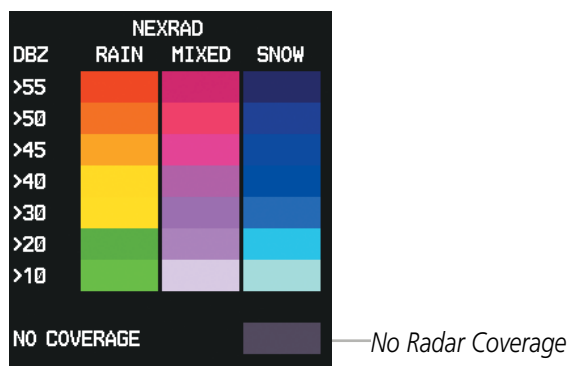

Figure 6-11 NEXRAD Data with Legend
- 1) Select the **MAP** Softkey. This step is not necessary on the Weather Data Link (XM) Page.
Composite data from all the NEXRAD radar sites in the United States is shown. This data is composed of the maximum reflectivity from the individual radar sweeps. The display of the information is color-coded to indicate the weather severity level. All weather product legends can be viewed on the Weather Data Link (XM) Page. For the NEXRAD legend (Figure 6-11), select the **LEGEND** Softkey when NEXRAD is selected for display.